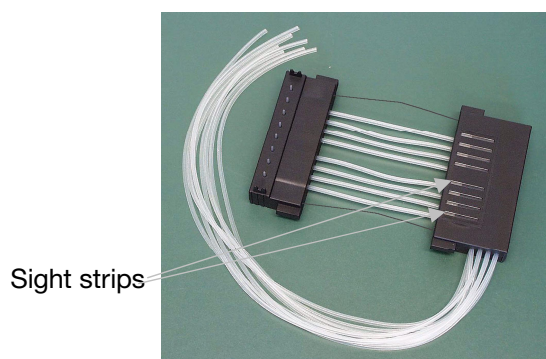
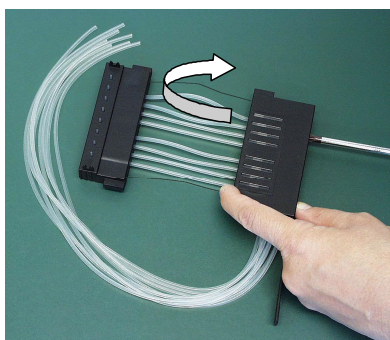

Figure 5-52. Dispensing cassette before calibration
Figure 5-53. Pre-calibrating the dispensing cassette
17. Turn the dispensing cassette so that the eight sight strips are visible (Figure 5-52). Look at the eight sight strips in the upper part of the dispensing cassette. You will notice that the tubes are not pre-calibrated. First open the calibration screw cover. For pre-calibration of the dispensing cassette, adjust the tube fasteners in the sight strips roughly to the middle using a hexagonal screwdriver (Figure 5-53).